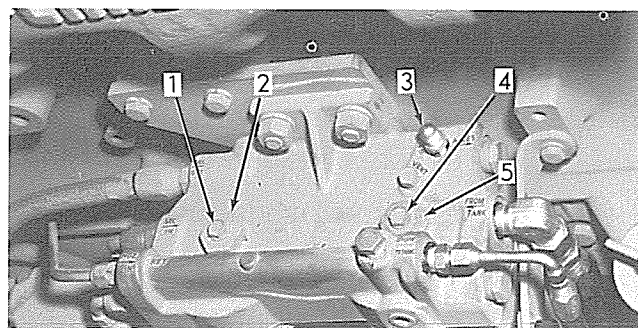

Fig. 2 — Location of Low Pressure Fuel
B. AIR IN SYSTEM (Fig. 2)
C. CLOGGED FUEL FILTERS OR COLLAPSED FUEL LINES (Fig. 2)